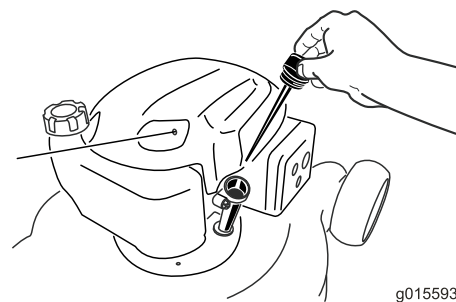

Figure 11
2. Remove the dipstick (Figure 11) and pour about 3/4 of the crankcase capacity of oil into the oil-fill tube.